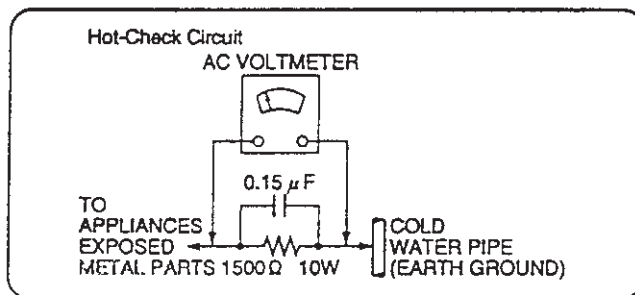

Figure 1
LEAKAGE CURRENT HOT CHECK (See Figure 1.)
2. Connect a $1.5k\Omega$, 10 watts resistor, in parallel with a $0.15\mu F$ capacitors, between each exposed metallic part on the set and a good earth ground such as a water pipe, as shown in Figure 1.